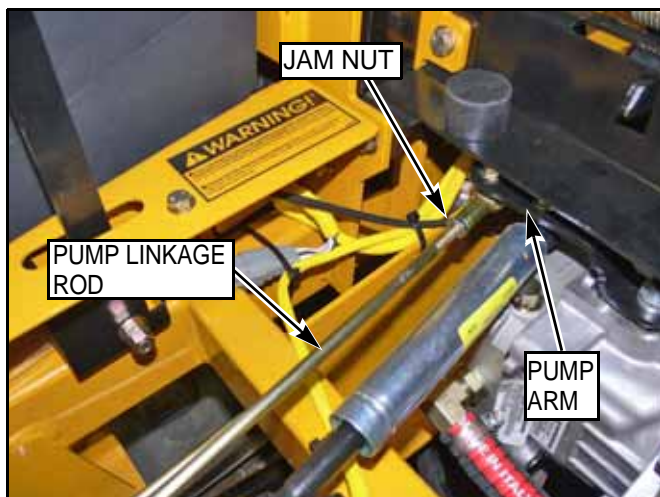

FIG. 52
Fine adjustment to the unit's steering is made with the adjustable pump linkage rods located between the control lever and pump arms. (FIG. 52).
4. If wheel(s) are rotating forward, loosen the jam nuts on the pump linkage rods and rotate the rod to lengthen the steering control linkage until the wheel(s) come to a stop (FIG. 52). Repeat for the opposite side if necessary.
5. If wheel(s) are rotating in reverse then loosen the jam nuts on the pump linkage rods and rotate the rod to shorten the steering control linkage until the wheel(s) come to a stop (FIG. 52). Repeat for the opposite side if necessary.